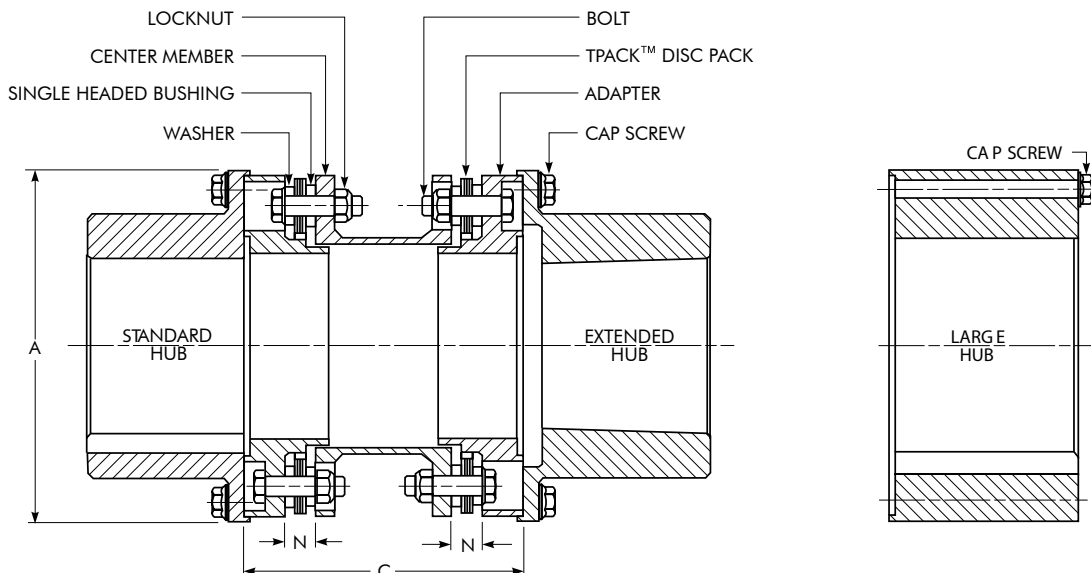

FIGURE 1
WARNING: *Because of the possible danger to person(s) or property from accidents which may result from improper use or installations of products, it is extremely important to follow the selection, installation, maintenance and operational procedures. All rotating power transmission products are potentially dangerous and can cause serious injury. They must be properly guarded in compliance with OSHA, ANSI, and any other local or governmental standards for the speeds and applications in which they are used. It is the responsibility of the user to provide proper guarding. For ATEX requirements the guard must have a minimum of ½ inch (12.7 mm) radial clearance to the coupling major diameter "A" (See Figure 1) and allow for good ventilation.*
As a guide, maximum and minimum values for dimension “N” are given. These dimensions are suggested for initial installation. Additional capacity is available to compensate for thermal and structural movement. Maximum axial capacity values for these couplings are also given. See Table 1 and Figure 1.
B. Remove all locknuts, bolts, washers, and disc packs. Special wrenches may be required. Clean up the two adapters and the center spool, removing any nicks or burrs (See Figure 1).